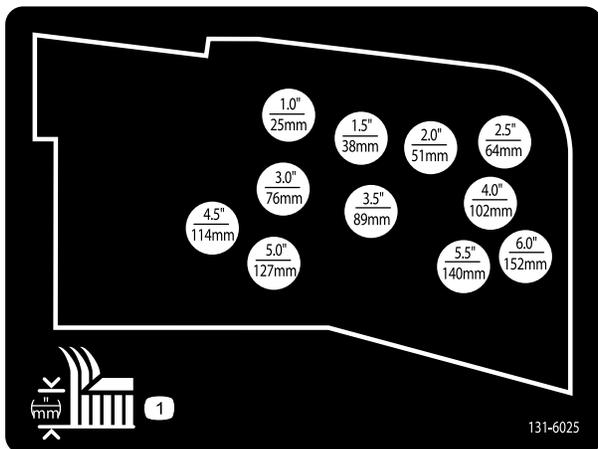

Figure 36
10. Mount the height-of-cut chains to the desired height-of-cut hole with the clevis pin and hairpin cotter (Figure 36).